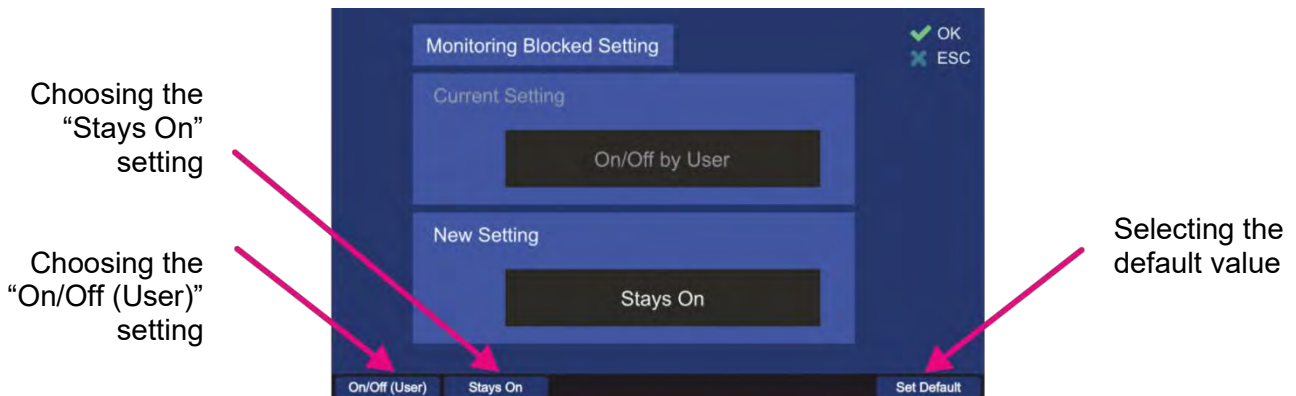

Figure 104. Monitoring handling settings
There are two possible settings in this menu (s. Figure 104).
- Choose the new setting using one of the hotkeys (s. Figure 104), which will then appear in the “New Setting” field.